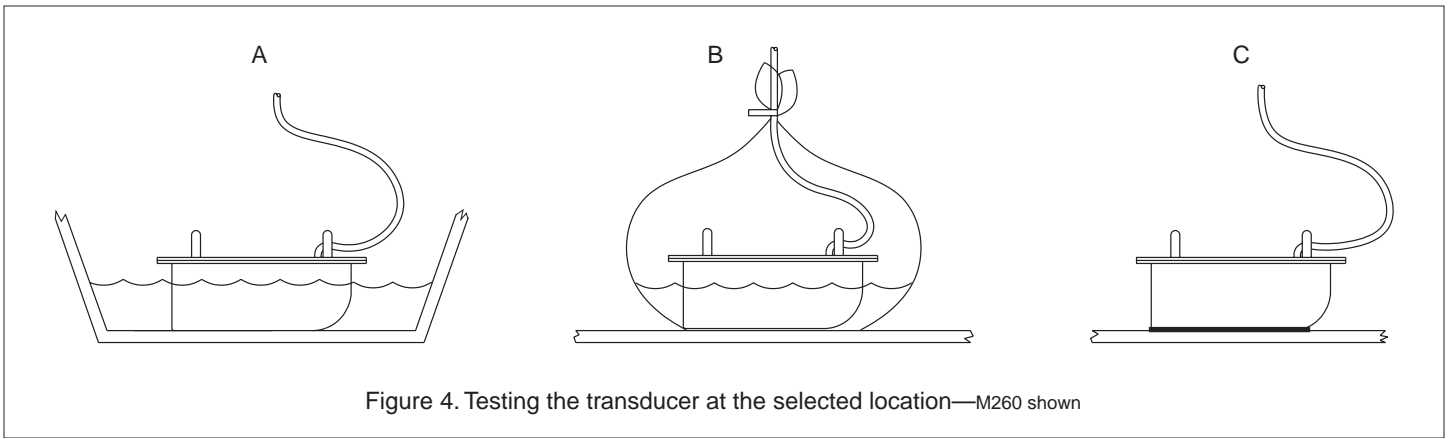

Figure 4. Testing the transducer at the selected location—M260 shown
A. This method is recommended if the transducer will be located near the stern and the boat has a minimum deadrise angle. Clean away any build-up of dirt and/or grease using detergent or a weak solvent such as alcohol. Place the transducer against the hull and flood the area with bilge water to cover the acoustic window (see Figure 4-A).
This method can be used at any location. If the hull surface is not smooth, grind it with a disc sander. Partially fill a thin plastic bag with water, place the transducer inside the bag, and close it tightly with a twist-tie. Wet the surface of the hull and press the active face of the transducer against it through the bag (see Figure 4-B).
This method can be used at any location. If the hull surface is not smooth, grind it with a disc sander. Coat the active face of the transducer with a water-based lubricant (such as K-Y® jelly). With a twisting motion, press the face firmly against the hull (see Figure 4-C).